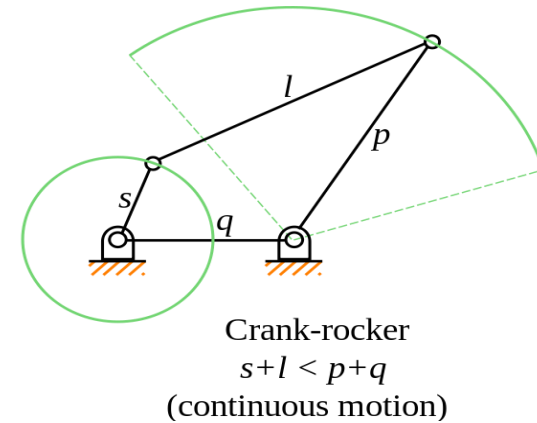

Figure 3
- Using a 4-bar Grashof crank-rocker-rocker linkage class I, assuming $S = 3$, $L = 7$, $P = 6$, $Q = 5$, Figure 3.